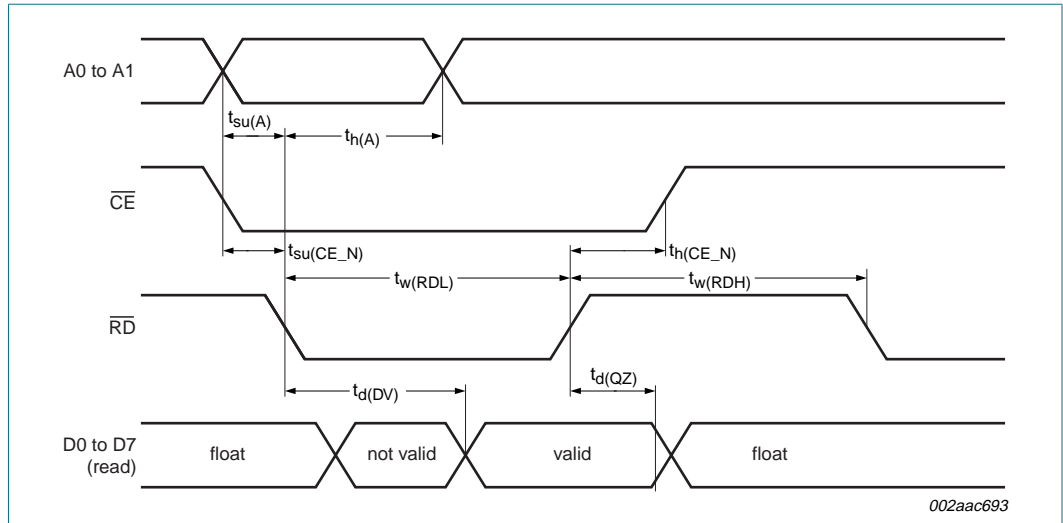

Fig 39. Bus timing (read cycle)
| Bus timing (see Figure 39 and Figure 41) | | | | | | |
[2] All voltage measurements are referenced to ground (GND). For testing, all inputs swing between 0 V and 3.0 V with a transition time of 5 ns maximum. All time measurements are referenced at input voltages of 1.5 V and output voltages shown in Figure 39 and Figure 41.
- [2] All voltage measurements are referenced to ground (GND). For testing, all inputs swing between 0 V and 3.0 V with a transition time of 5 ns maximum. All time measurements are referenced at input voltages of 1.5 V and output voltages shown in Figure 39 and Figure 41.